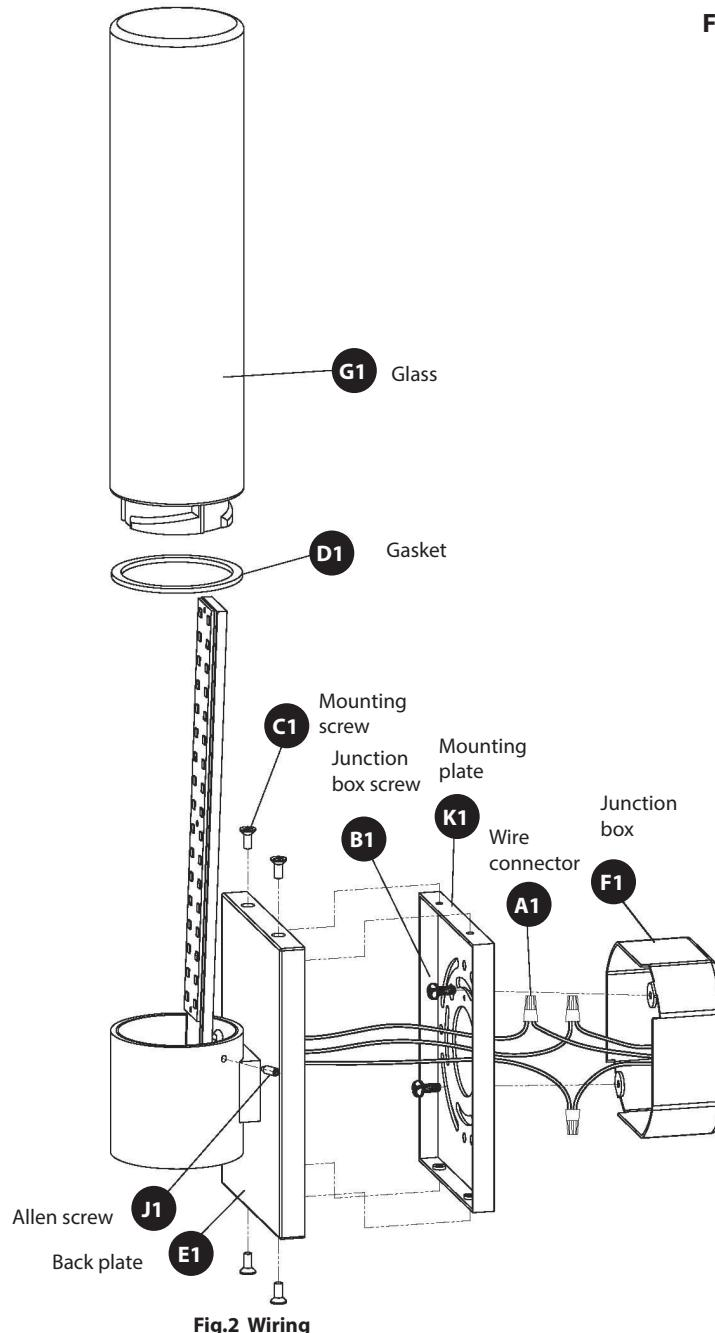

Fig.2 Wiring
5. Connect the fixture wires to junction box wires as shown in Fig. 2, making sure that all wire connectors (A1) are secured. Fixture and junction box ground wires should be connected to mounting plate using green screw provided. After wires are connected, tuck them carefully inside the junction box.